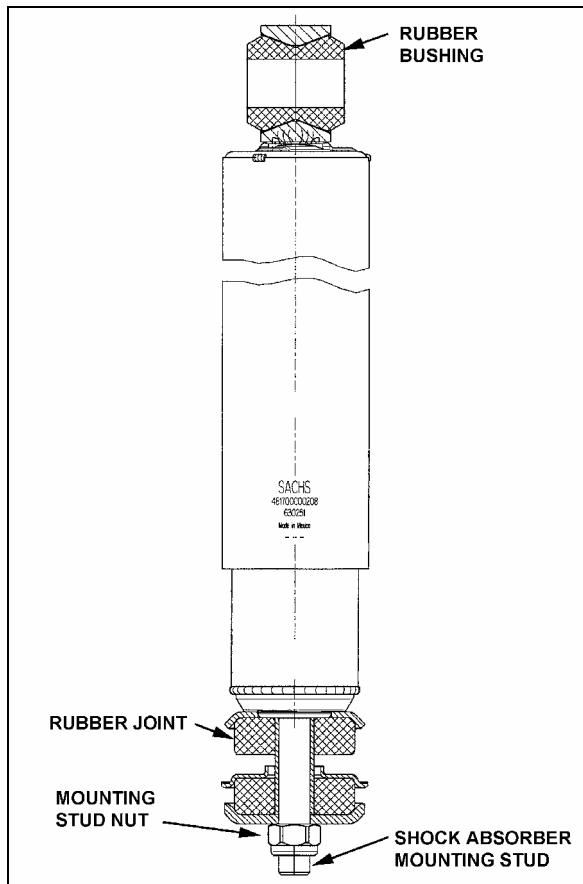

FIGURE 27: SHOCK ABSORBER
2. Remove the nut and washer from shock absorber mounting pin (upper side), taking care to identify the inner and outer washers to ease reinstallation. Refer to figure 27 for details.
3. Place the inner washer on shock absorber pin (Fig. 27).